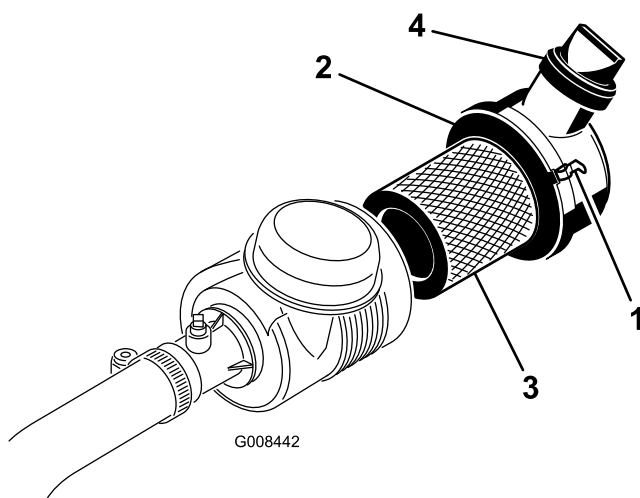

Figure 38
1. Release the latches securing the air cleaner cover to the air cleaner body (Figure 38).
7. Reinstall the cover and secure the latches (Figure 38).